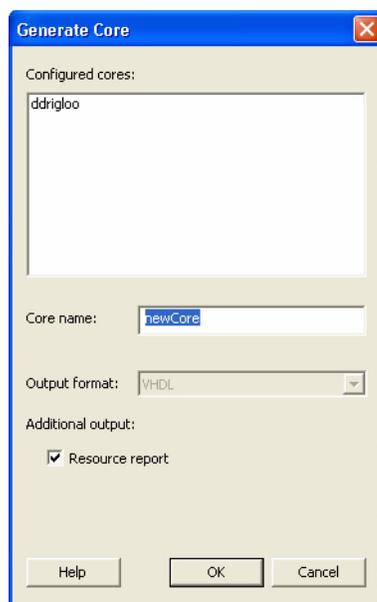

Figure 13-4 • Generate Core Window
- Once the desired configuration is selected, click the **Generate** button. The Generate Core window opens (Figure 13-4).